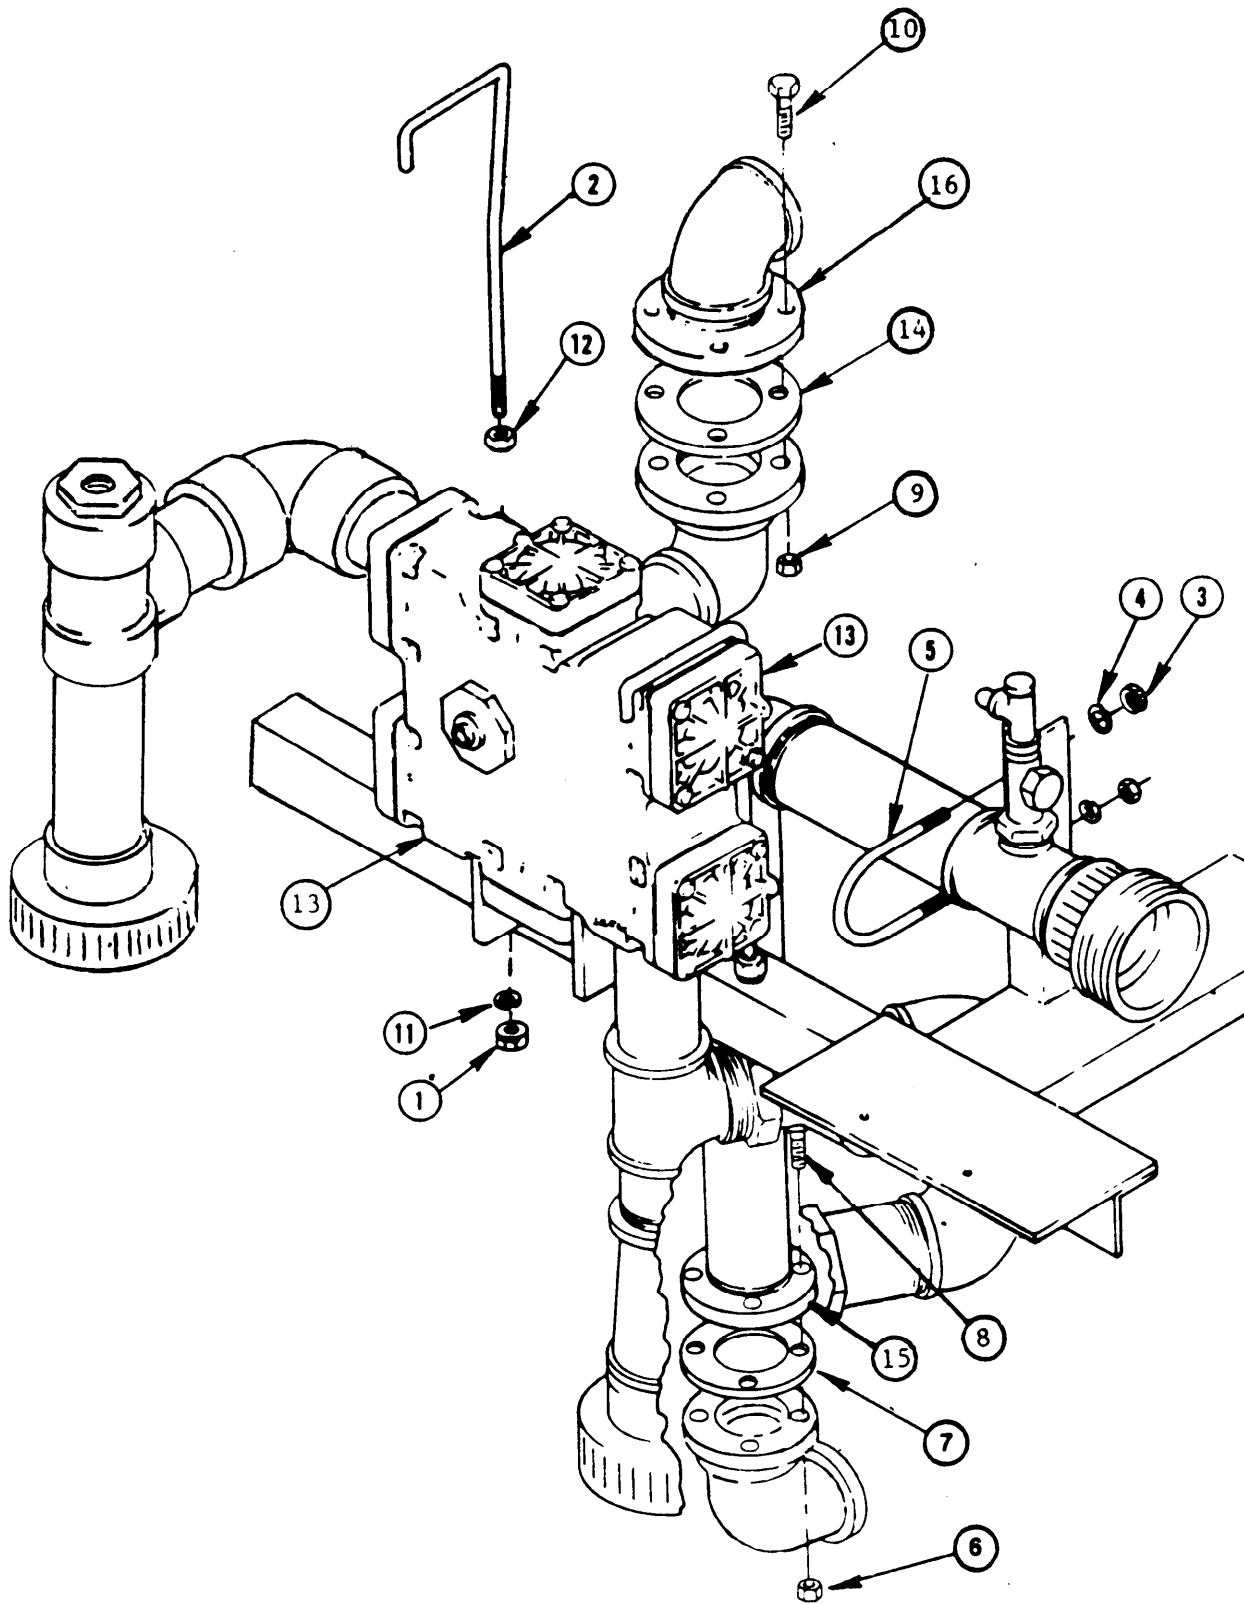
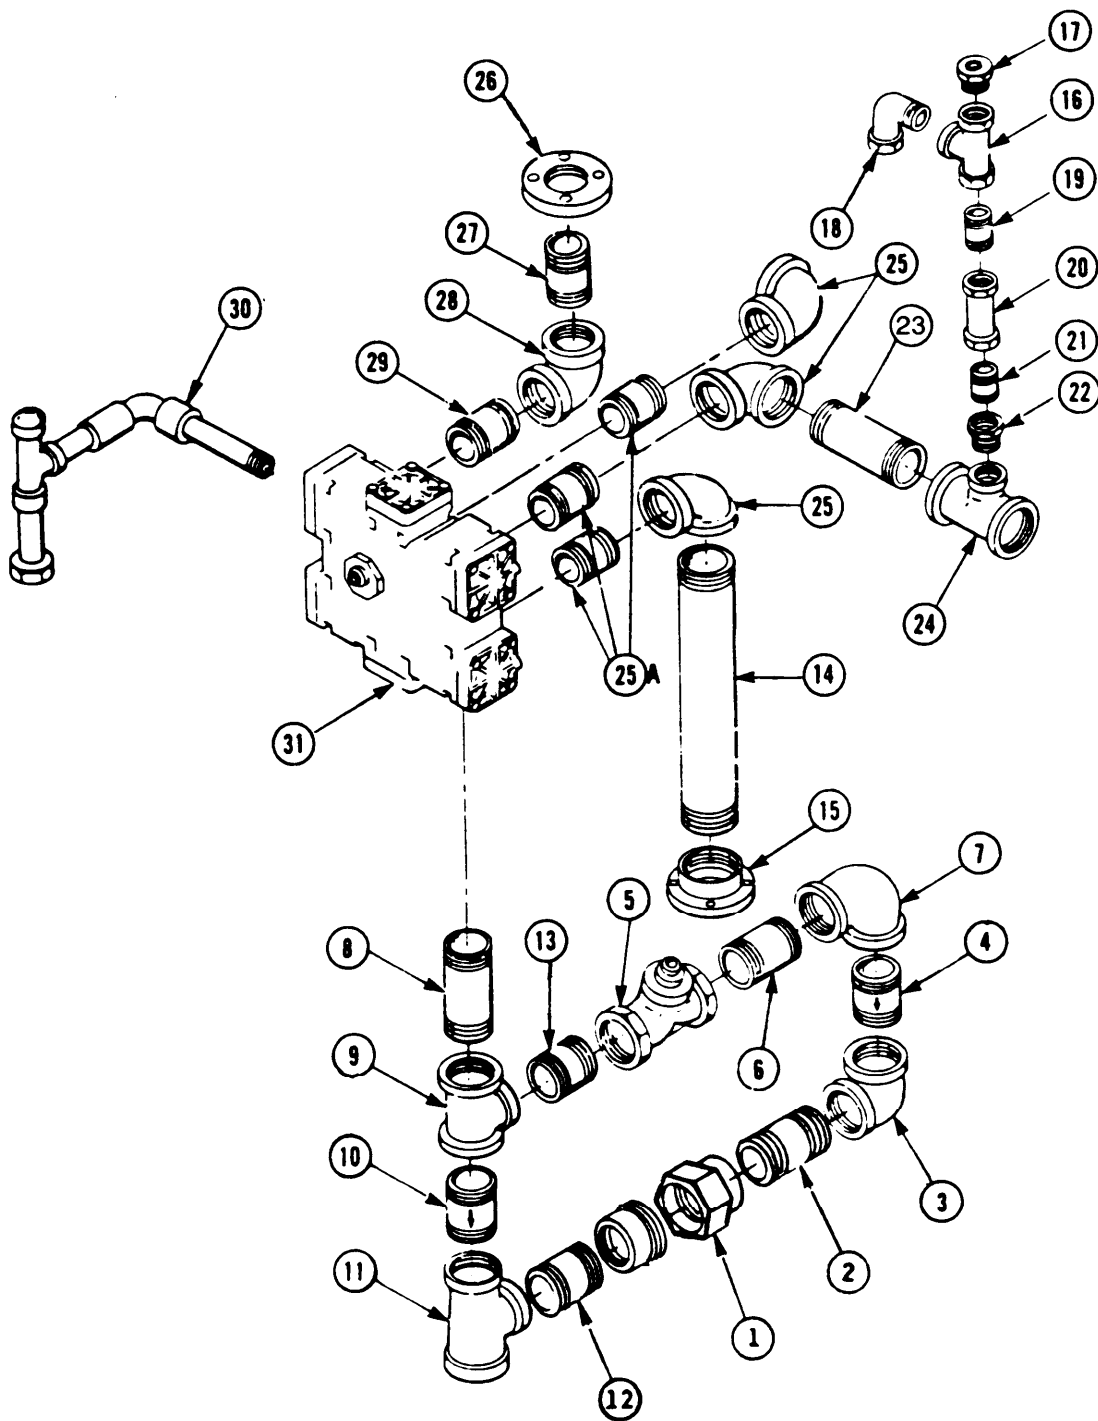

Figure 3-39. Multimedia Filter Control Valve Piping Assembly
Figure 3-40. Multimedia Filter Control Valve Piping Assembly
d. Removal, Control Valve Assembly, and Piping. (Figure 3-39)
- (1) Remove two nuts (1) and two lockwashers (11) from control valve clamps (2).
- (2) Remove two clamps (2) from control valve assembly (13).
- (3) Remove two locknuts (12) from two clamps (2).
- (4) Remove two nuts (3) and two lockwashers (4) from U-clamps (5).
- (5) Remove U-clamp (5) from control valve assembly (13).
- (6) Remove four nuts (6) and four lockwashers (7) from four bolts (8).
- (7) Remove four bolts (8) from gasket (7) and flange (15) of control valve assembly (13).
- (8) Remove and discard gasket (7) from between flange (15).
- (9) Remove four nuts (9) from four bolts (10).
- (10) Remove four bolts (10) from gasket (14) and flange (16) of control valve assembly (13).
- (11) Remove and discard gasket (14) from between flange (16).
- (12) Remove control valve assembly with piping attached, from multimedia filter assembly.
e. Disassemble, Multimedia Control Valve Piping Assembly. (Figure 3-40)
- (1) Loosen union (1) and remove pipe section consisting of half union (1), nipple (2), elbow (3), and flow control (4) .
- (2) Remove half union (1) from nipple (2).
- (3) Remove nipple (2) from elbow (3).
- (4) Remove flow control (4) from elbow (3),
- (5) Remove pipe section consisting of diaphragm valve (5), nipple (6), and elbow (7).
- (6) Remove elbow (7) from nipple (6).
- (7) Remove nipple (6) from diaphragm valve (5).
- (8) Remove pipe section consisting of pipe (8), tee (9), flow control (10), and tee (11) from valve assembly (31).
- (9) Remove pipe (8) from tee (9).
- (10) Remove tee (11) from flow control (10).